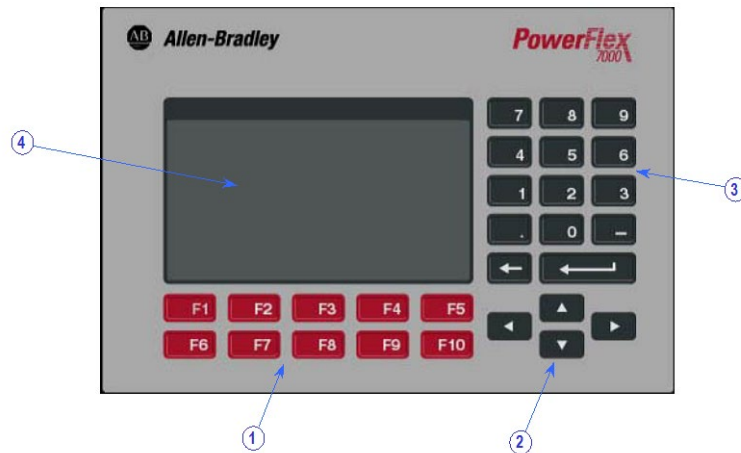

Figure 3.1– PowerFlex 7000 Operator Interface Terminal
The operator interface used on the PowerFlex 7000 Medium Voltage Drive is that of the PanelView 550 terminal (Figure 3.1). This terminal however does not behave as a PanelView, as only the hardware for the operator interface has been utilized. The PanelView software has been replaced with unique software to tailor it to the requirements of the Medium Voltage Drive, and its faceplate has been modified (Figure 3.1).
The keypad of the operator interface consists of two rows of five function keys (item 1 of Figure 3.1) located below the operator interface's display area (item 4 of Figure 3.1). In the lower right corner of the operator interface are four keys, which will be referred to as the cursor keys (item 2 of Figure 3.1). Above the cursor keys are data entry keys consisting of the numeric values 0-9, a decimal point (.), a negative (-), a backspace key and a data entry key (item 3 of Figure 3.1).